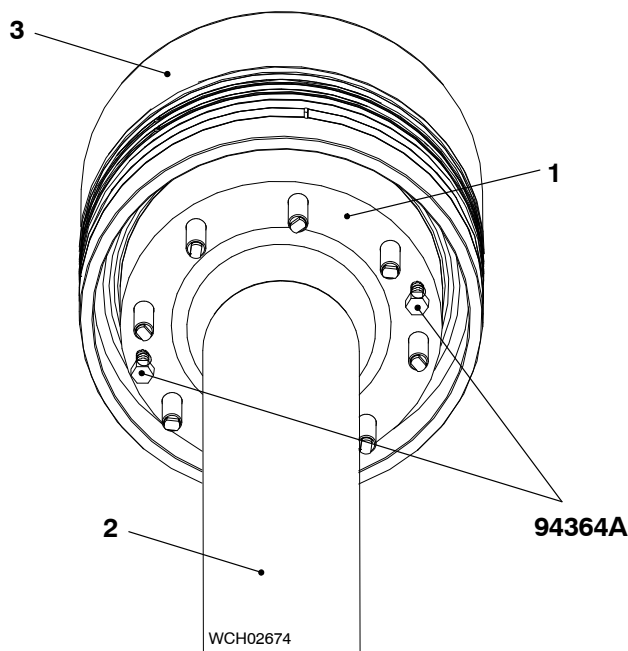

Fig. 2
- 1) Put the two jacking screws (94364A, Fig. 2) fully into the two tap holes in the top of the piston rod (1). Make sure that the jacking screws touch the piston head (3).
- 2) Equally tighten the two jacking screws until there is a clearance between the piston head (3) and the piston rod (2).